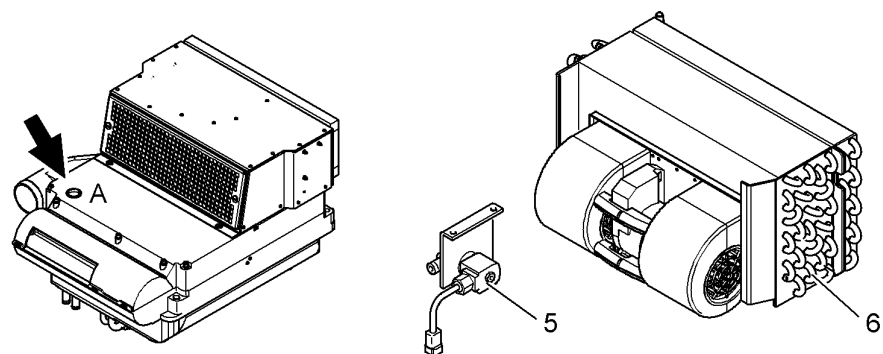

Fig. 5-70 Heating system with solenoid valve
- Do not operate the machine without these filters, even briefly, because the heat exchanger **6** will quickly get blocked (see Fig. 5-70).